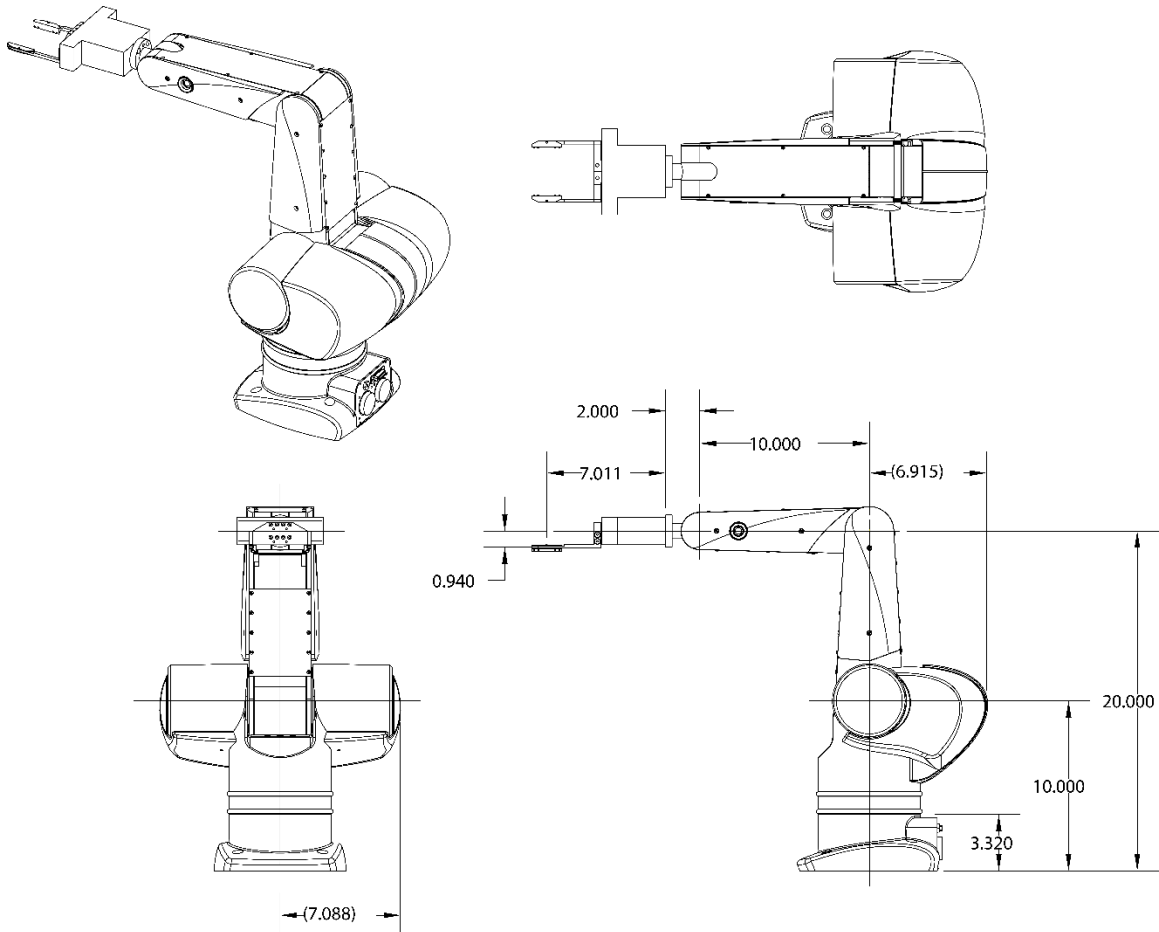

Figure 1.1 Physical Dimensions of CRS robot arm
- 1.2.3 Finish the D-H table below. Refer to Figure 1.1 for physical dimensions of CRS robot arm.